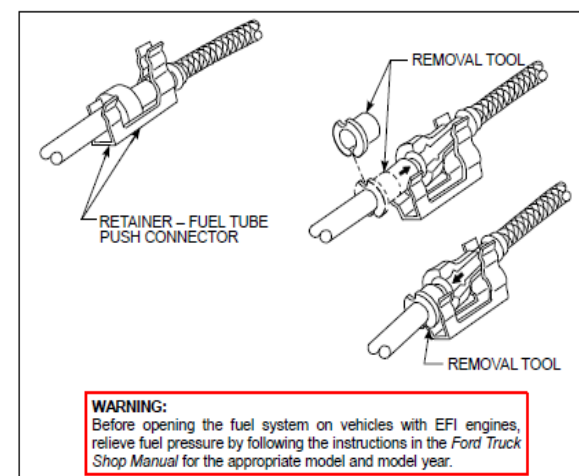

Figure 6 – Flexible Fuel Line Push-Connect
- The special removal tool shown in Figure 6 must be used to open push connectors installed on flexible fuel lines if the lines need to be disconnected. The appropriate tool is available for purchase, see Ford Service Tools.
- The push connectors on flexible fuel lines, if disconnected, must be reconnected by snapping them back into position and installing the appropriate retainer as shown in Figure 6.